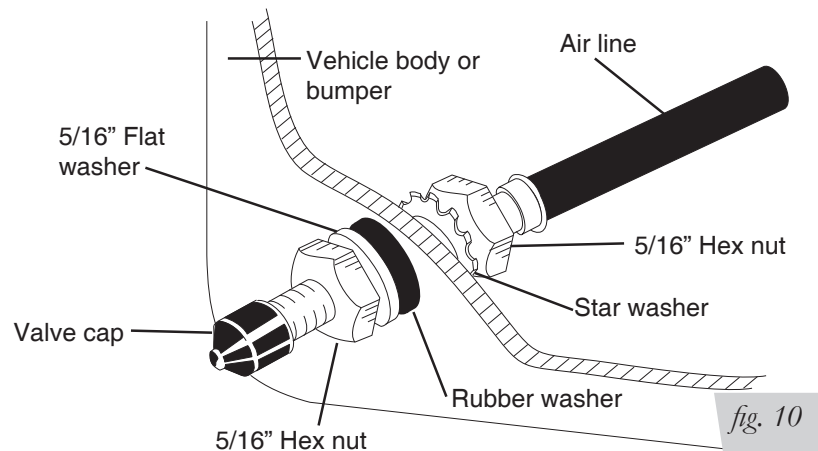

fig. 10
4. Place a 5/16" nut and star washer on the air valve. Leave enough of the inflation valve in front of the nut to extend through the hole and have room for the rubber washer, flat washer, and 5/16" nut and cap. There should be enough valve exposed after installation—approximately 1/2"—to easily apply a pressure gauge or an air chuck (fig. 10).